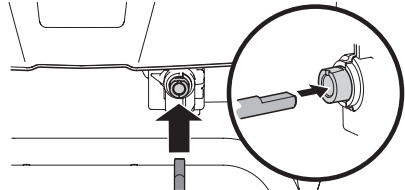

Figure 39
5. Insert other end of chute control rod into coupler below handle panel. Make sure to line up flat end of rod and flat end of coupler. You may need to rotate rod around until these two surfaces line up (Figure 39 inset).